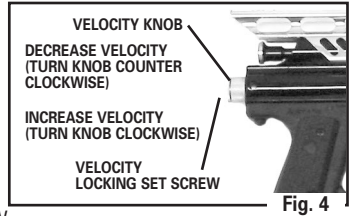

Fig. 4
- To increase velocity, loosen the VELOCITY LOCKING SETSCREW 1/2 turn with a hex wrench, and turn the VELOCITY KNOB clockwise. (Fig. 4)